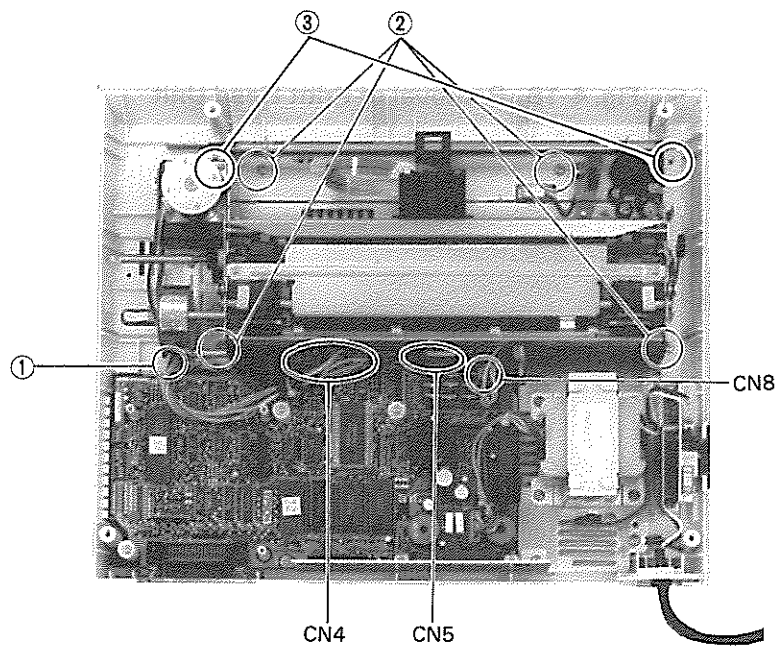

Fig. 4-17. Removal of Printer Mechanism
4.3.3.1 Removal of Printer Mechanism (Fig. 4-17)